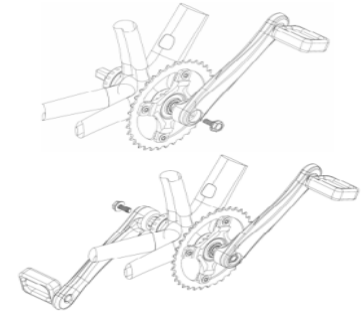

Figure 8
- (7) Use a pneumatic torque wrench to fix the right crank group and left crank group with M8x15 screws (torque  $\leq 35$ Nm) respectively at both ends of the central shaft as shown figure 8.